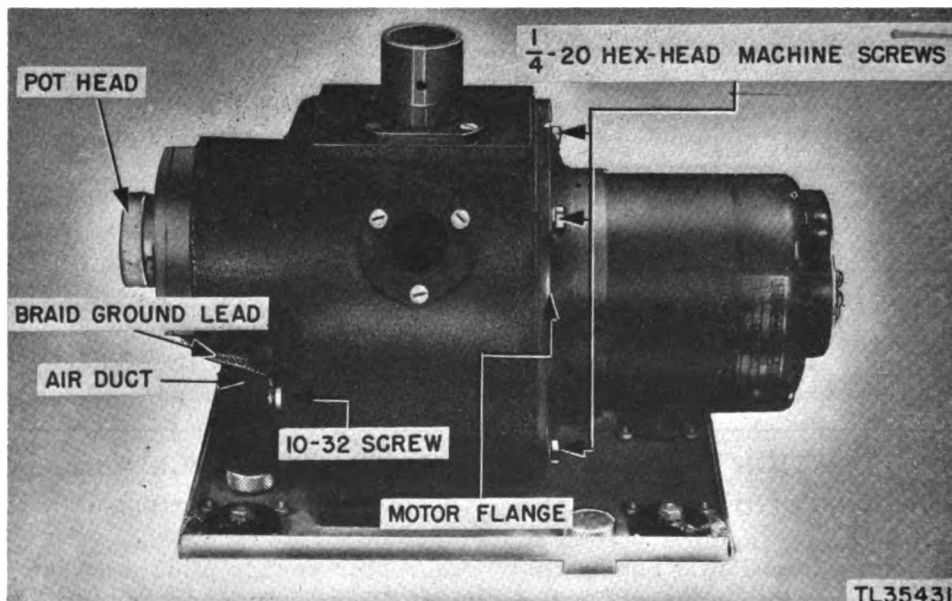

Figure 169. Rotary spark gap, exterior view.
a. Remove viewer window by removing three 8-32 screws in the window retaining ring (fig. 169).